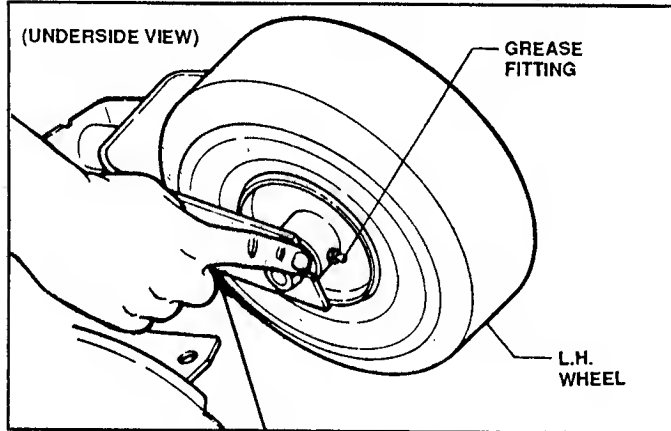

FIGURE 9
- **FRONT WHEEL BEARINGS:** Lubricate through fittings with bearing grease from a pressure gun. See Figure 9.